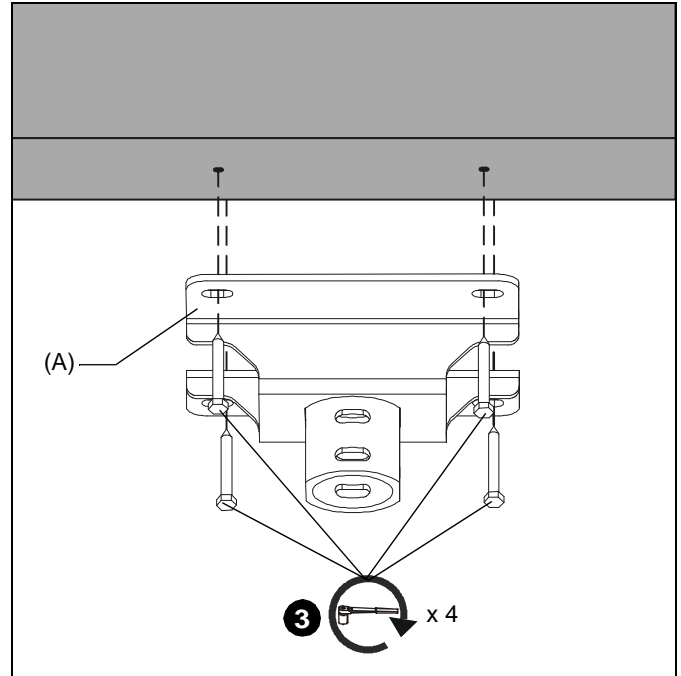
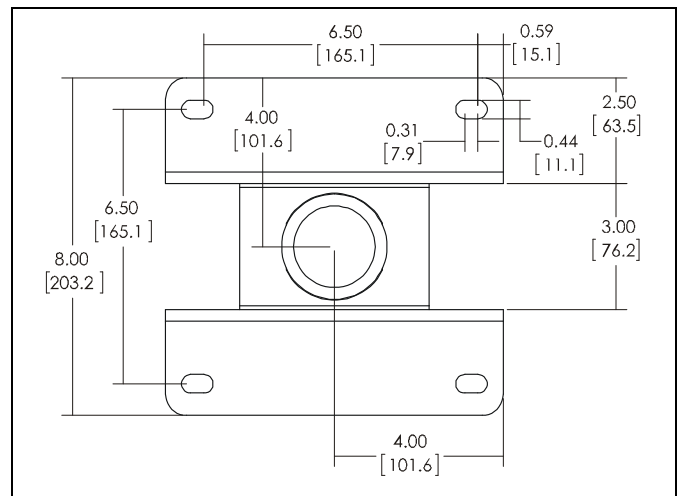

Figure 2
Figure 3
- Install and tighten four 5/16" x 2-3/4" (minimum) lag screws (not included) through CPA330 (A), into wood stud cross bracing. (See Figure 2) (See Figure 3) for dimensions details.
- Secure the threaded rods to the CPA mount with ASTM A307 or better 3/8" jam nuts (not provided) and washers (one of each on inside and one of each on outside-not provided). (See Figure 3) for dimensions details.
1. Using ceiling plate (A) as a template, mark locations of four pilot holes on ceiling.
3. Use four UX10 anchors (not provided) to secure CPA mount into solid concrete ceiling. (See Figure 3) for dimensions details.